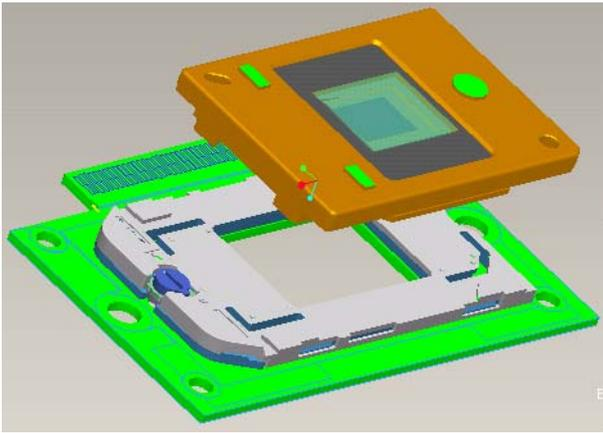

Fig. 8-3
- 8.2. Alight keying and Assemble DMD to Chip B/D (Fig. 8-3).